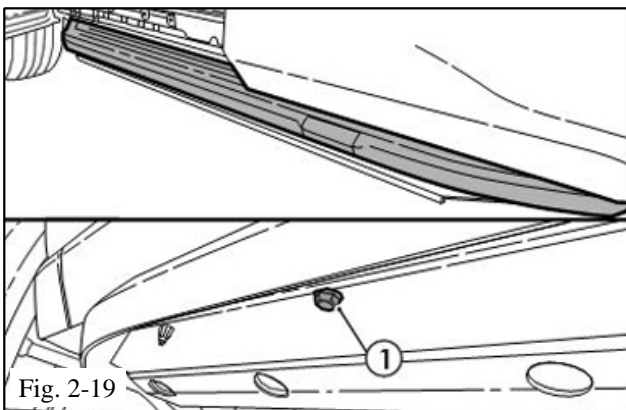

Fig. 2-19
- (p) Ensure the front door is open, and rear door is closed (Fig. 2-19).